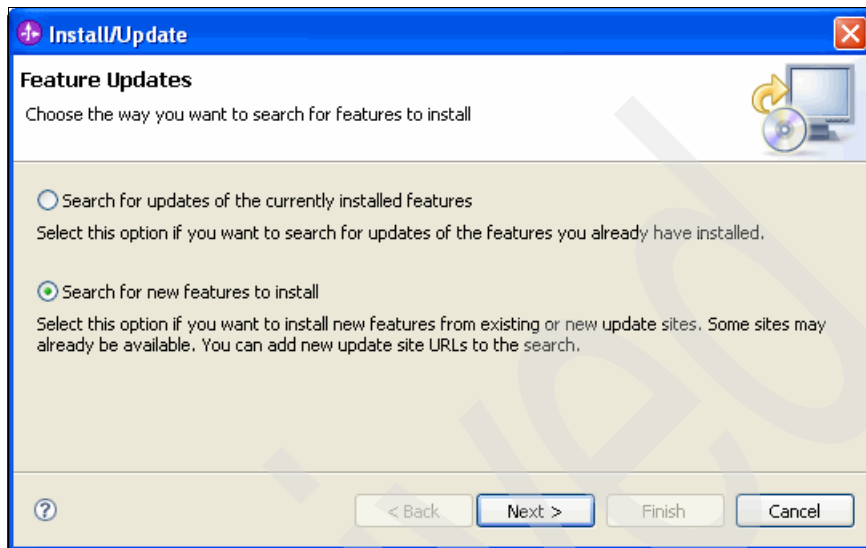

Figure 8-34 Selecting to install new features
6. In the Install/Update window (Figure 8-34), select **Search for new features to install** and click **Next**.